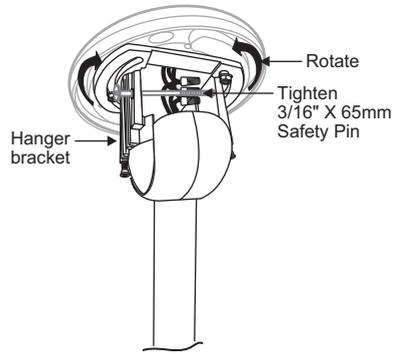

Fig. 15
1. Now, rotate the "entire fan and slope adaptor assembly" (left or right) by rotating the hanger bracket until the downrod and the ceiling fan assembly are hanging straight down and the entire assembly "swings" freely in the exact direction of the ceiling slope. (Fig. 15)
2. Now, Securely tighten the two (2) Hex Nuts holding the hanger bracket to the mounting plate. Making sure the Hanger Bracket is secure and can not move.
Next, securely tighten the 3/16" X 65mm Safety Pin. (Fig. 15)